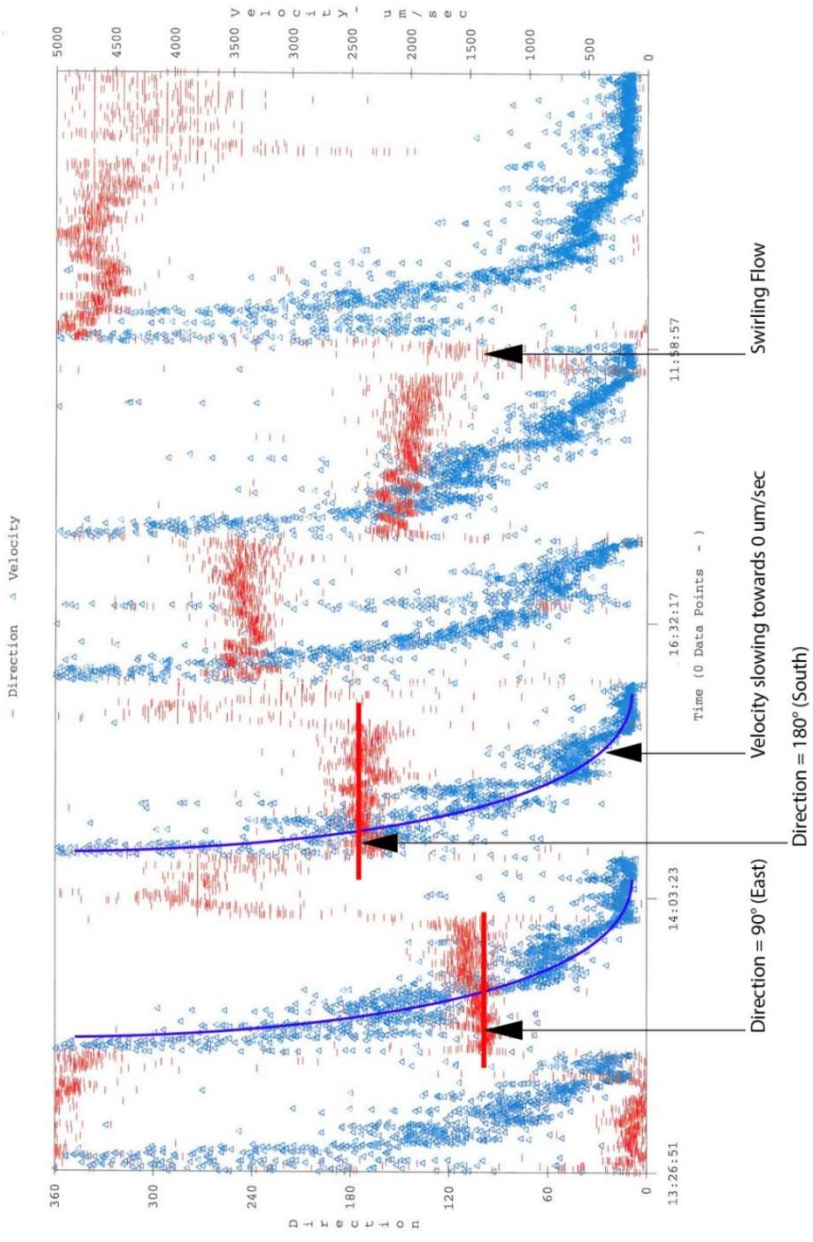

Figure 3-3: Bucket Test Data Report
4. Swirl the water in the bucket clockwise, and place the Borescope in the water against the north side of the bucket for at least 20 minutes. Using the Graph View, observe the colloidal particles moving towards the east (90°), and observe the velocity decreasing as the water slows down and the particles begin to swirl in multiple directions. When viewing the graph, you should see a decrease in velocity as the water slows down, and the direction lines should start to represent swirling flow (Figure 3-3).